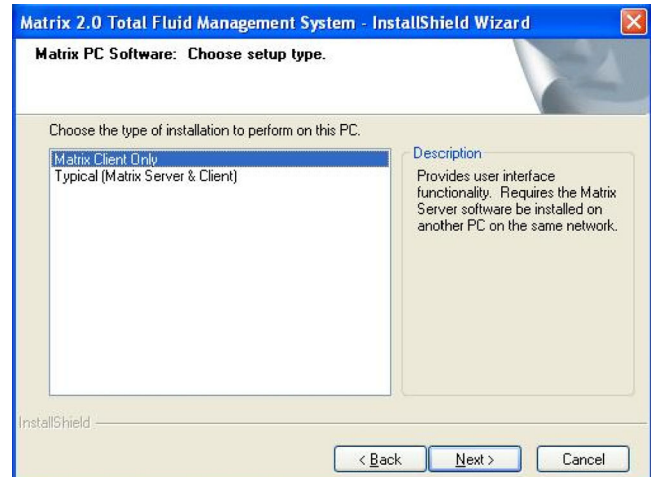

FIG. 28 Setup Path 2 - Choose Setup Type
- The setup type shown selected is **Matrix Client Only** (FIG. 28), used for all machines except the Matrix Server in multiple-PC Matrix systems. Click **Next**.